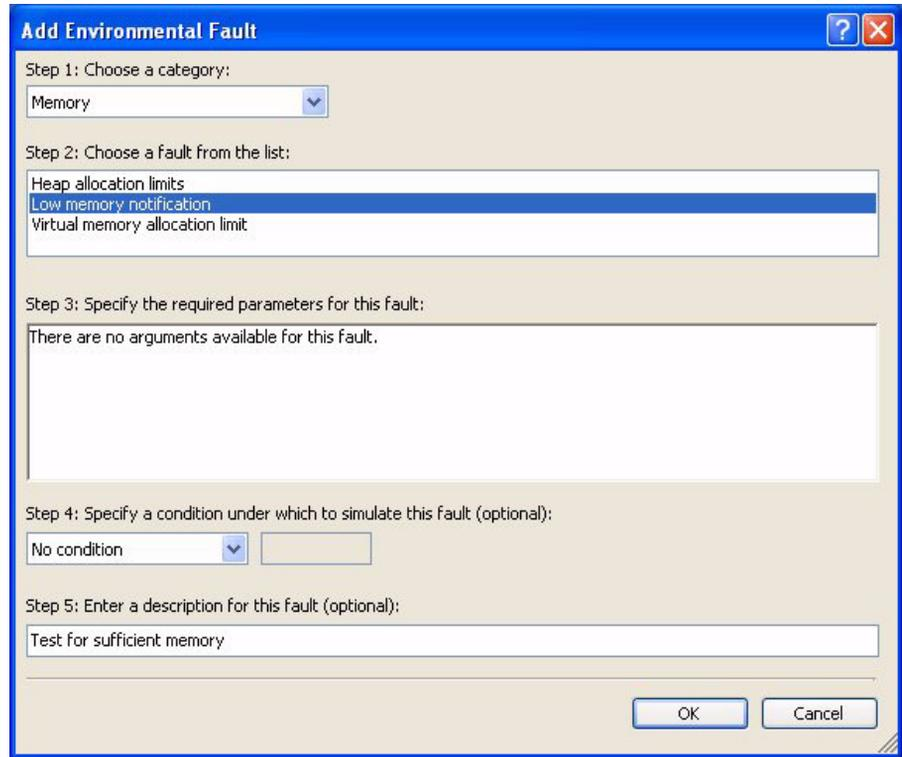

Figure 4-7. Adding and Configuring a Memory Environmental Fault
- 7 Create a new environmental fault — such as, a memory-related fault, shown in Figure 4-7.